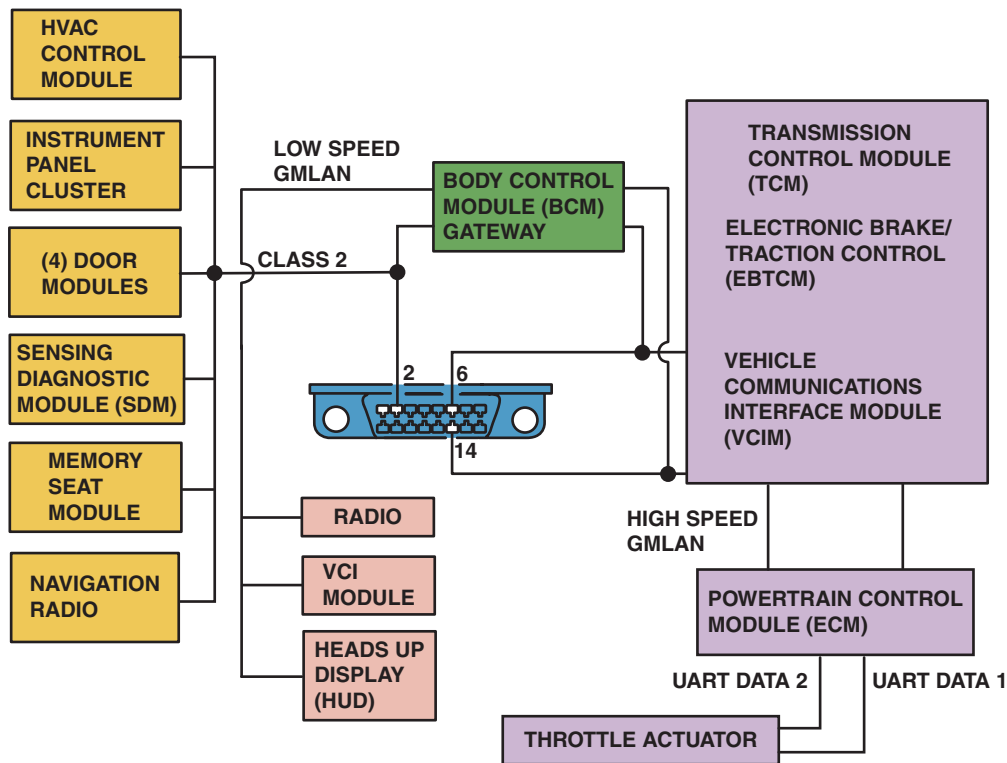

FIGURE 14-31 This schematic of a Chevrolet Equinox shows that the vehicle uses a GMLAN BUS (DLC pins 6 and 14), plus a Class 2 (pin 2) and UART.
Many General Motors vehicles use more than one type of BUS communications protocol. Check service information (SI) and look at the schematic for computer data line circuits which should show all of the data BUSES and their connectors to the diagnostic link connector (DLC). ● SEE FIGURE 14-31.